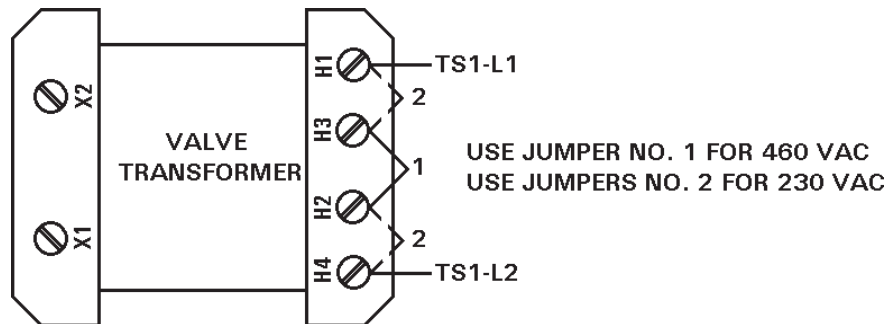

Figure 4-2. Valve Transformer jumpers settings
3. **Valve Transformer:** Jumpers on the valve transformer H1, H3, H2, and H4 must be configured to match the line voltage (see Figure 4-2). The standard Valve Transformer included with the EN1000/EN1001 (either 50 VA or 150 VA) is configured for 240 VAC or 480 VAC input; for 380 or 575 VAC operation, consult the factory.